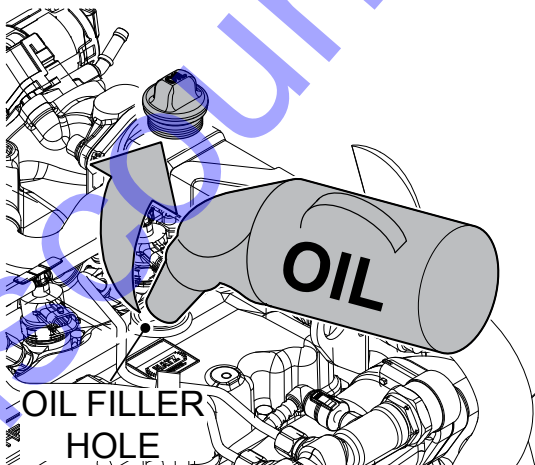
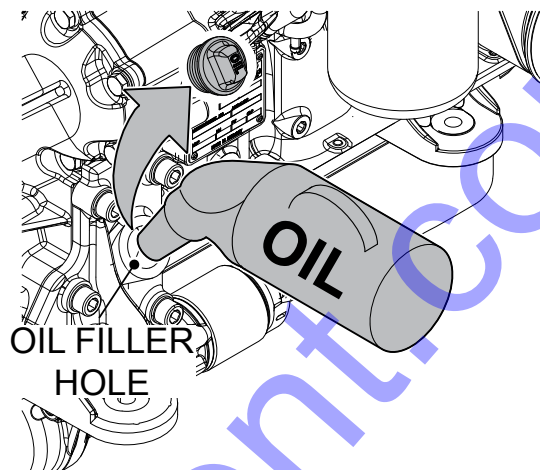

Figure 8. Engine Oil Filler Hole (Top)
Figure 9. Engine Oil Filler Hole (Bottom)
5. If the oil level is close to the "min." mark, add engine oil to the "max." mark through the oil filler hole. Depending on accessibility, use top oil filler hole (Figure 8) or bottom filler hole (Figure 9).